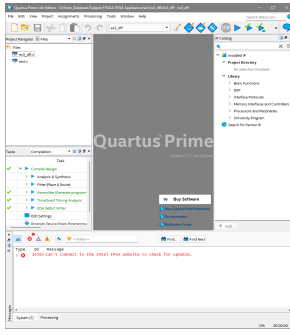

Figure 35: D flip-flop project
1. Create a project named "ex3\_dff". (Figure 35)